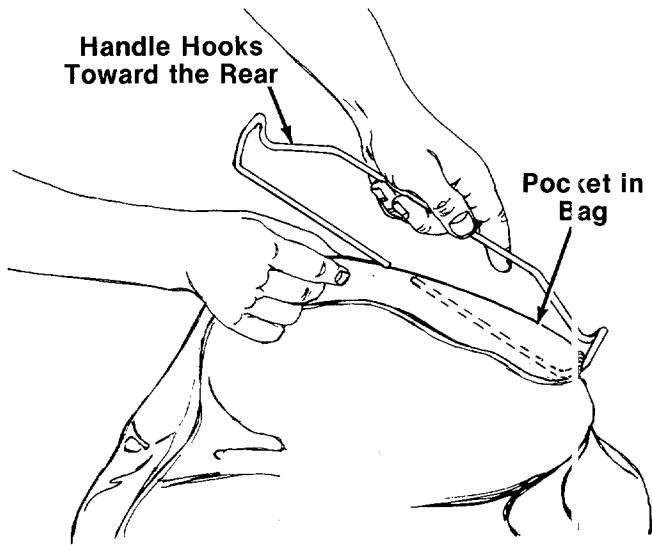

FIGURE 18.
3. Attach the rear handle to bag by inserting one side of handle into pocket on the rear of the bag. The handle should hook toward the rear of the bag as shown in figure 18. Thread all the material onto one side, then slide it over onto the other side. See figure 18.